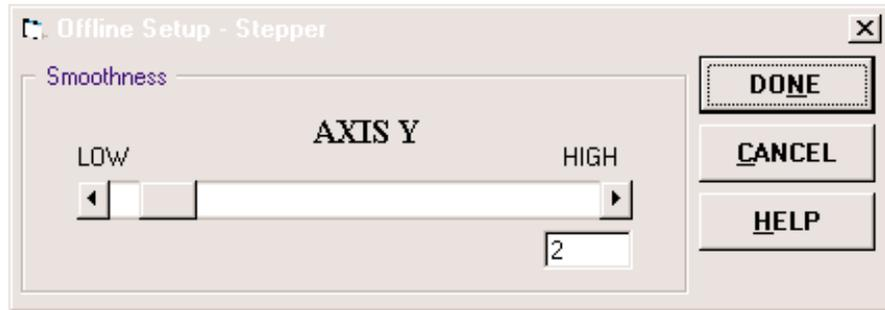

Figure 5.8 - Stepper Axis Setup
B. Step/Dir: If a step or direction signal is selected, a stepper motor setup window, as shown in Fig. 5.8, will display for setting stepper smoothness. The parameter smooths the frequency of the step motor pulses. Larger values of smoothness constant provide greater smoothness. The default value is 2. Note that the smoothness results in a longer motion time.